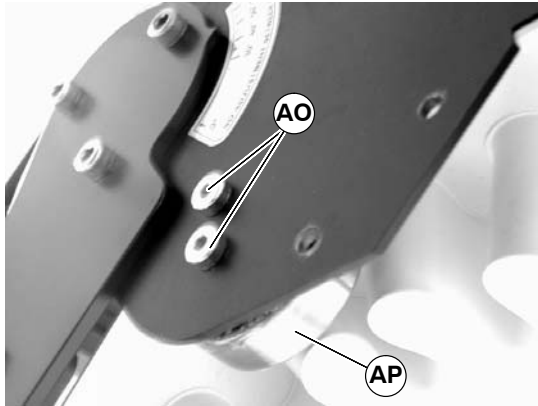

Figure 85
2. Remove screws (AO of Figure 85) and remove roller bearing (AP).